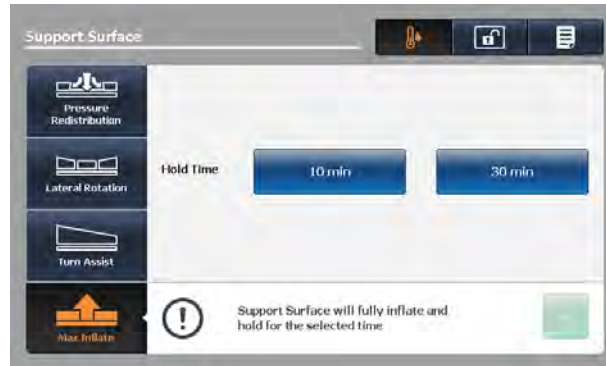

Figure 65: Max inflate screen
1. Tap **Max Inflate** (Figure 65 on page 70).